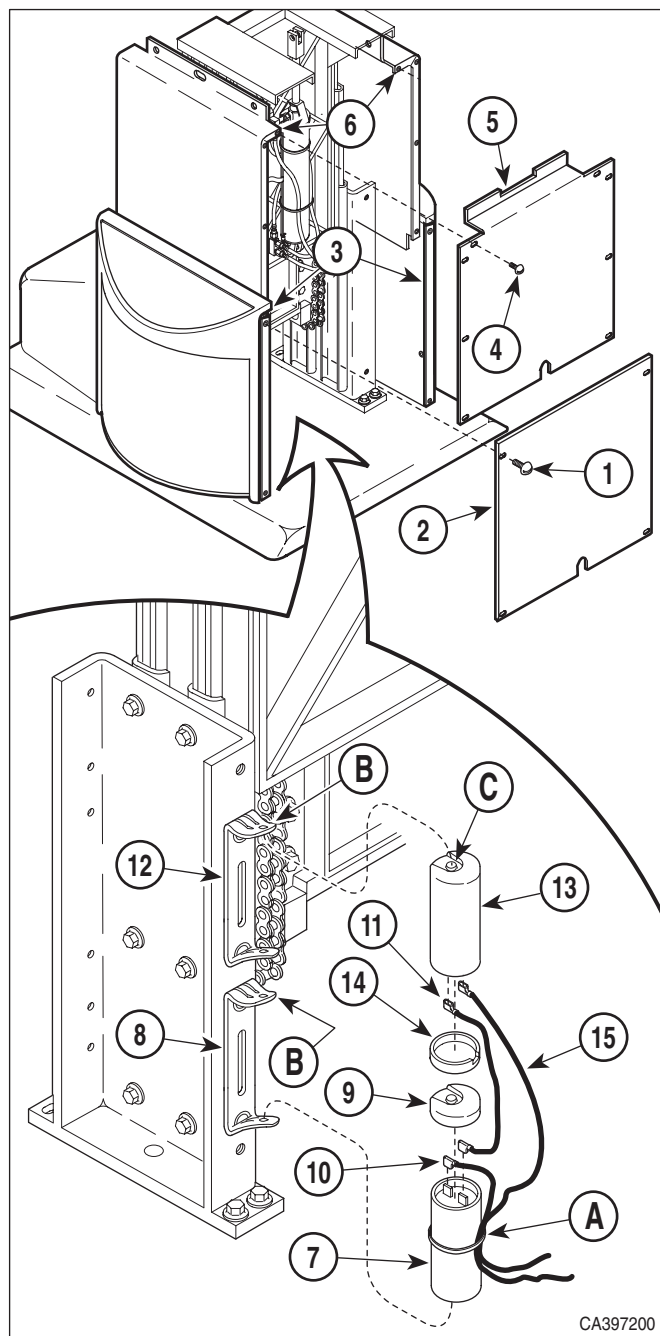

Figure 4-24. Capacitors Removal / Installation
- (1) If possible, raise FOOT UP function all the way up.
- (2) Unplug table power cord from outlet.
- (3) Remove four screws (1, Figure 4-24) and front outer shroud (2) from left and right hand outer shrouds (3).
- (4) If necessary to gain access to capacitors, remove eight screws (4) and front inner shroud (5) from left and right hand inner shrouds (6).
- (5) Cut cable tie (A) securing wires to capacitor (7).
- (6) Using a screwdriver, pry tab (B) of capacitor mounting bracket (8) upward and remove capacitor (7) from capacitor mounting bracket.
- (7) Remove capacitor cap (9) from capacitor (7).